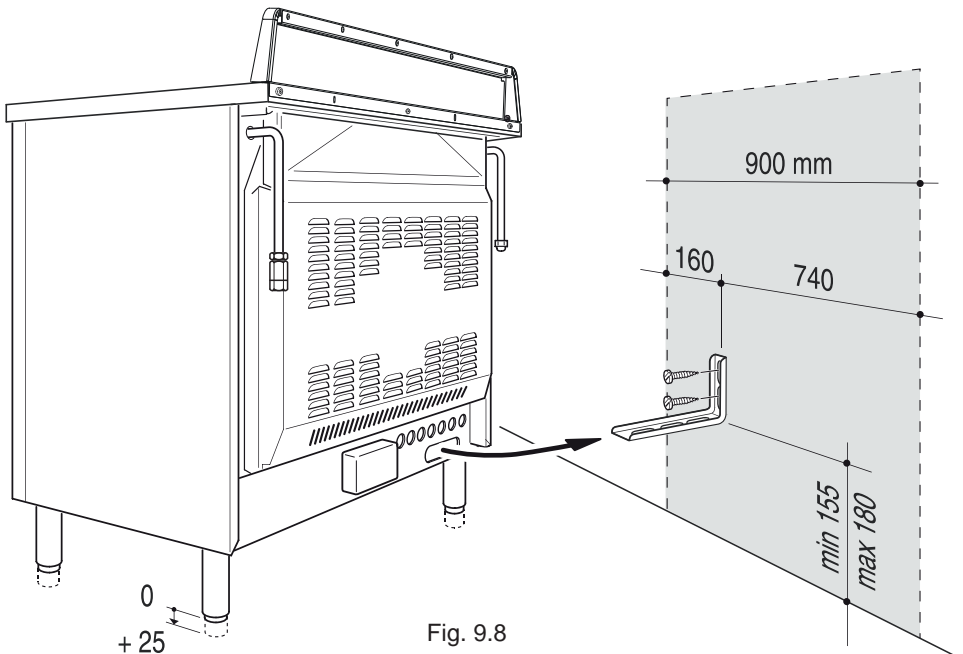

Fig. 9.8
1. After you have located where the cooker is to be positioned, mark on the wall the place where the 2 screws of the anti-tilt bracket have to be fitted. Please follow the indications given in fig. 9.8.
4. Move the cooker to the wall and adjust the height of the anti-tilt bracket so that it can engage in the slot on the cooker's back, as shown in fig. 9.8.